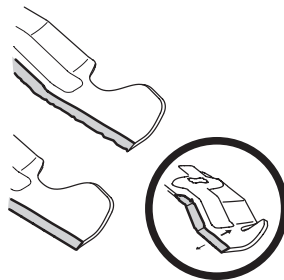

Figure 28
5. To properly sharpen the cutting blade, remove equal amounts of metal from both ends of the blade along the cutting edges, parallel to the trailing edge, at a 25° to 30° angle. Always grind each cutting blade edge equally to maintain proper blade balance. See Figure 28.